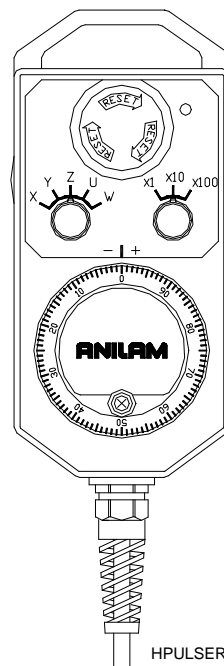

Figure 3-11, Handy Pulser Assembly
1. Locate the preassembled Handy Pulser and the shoulder bolt. Refer to **Figure 3-11**.